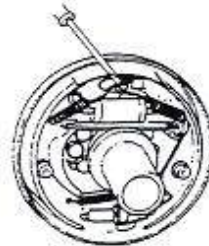

Fig. 2-19
- (2) Remove the return spring on the brake shoe. See Fig. 2-19.